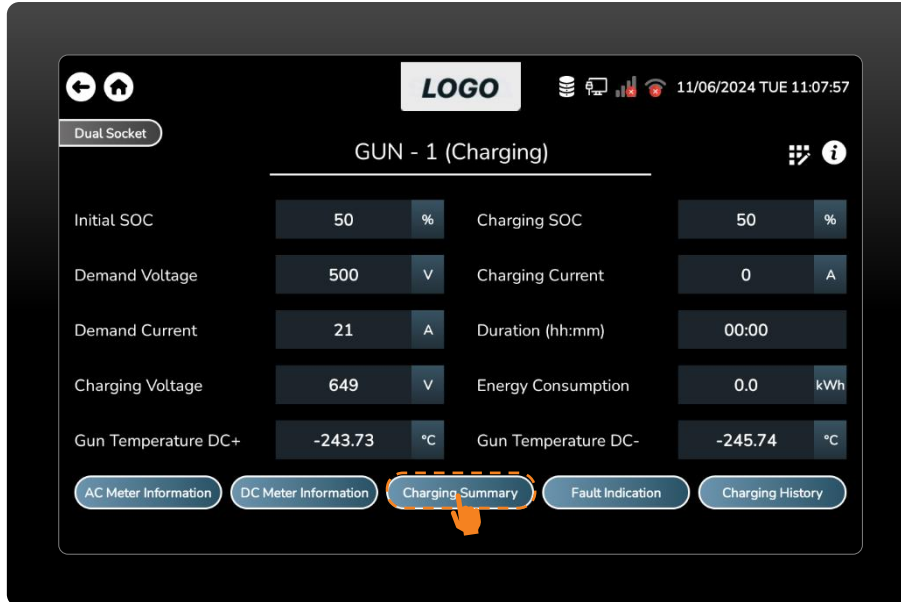

Figure 68 Press the Charging Summary Button.
- To get information about the charging summary, press the charging summary button. (Figure 68)